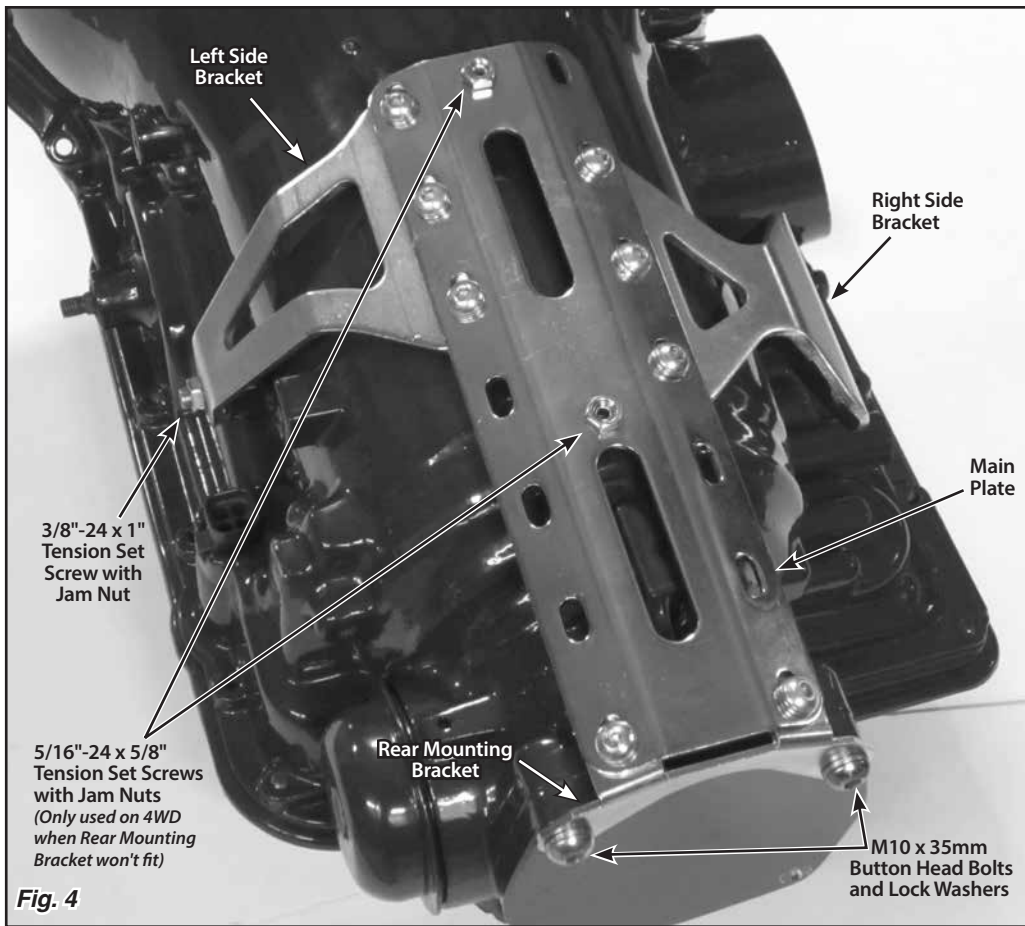

Fig. 4
**Step 5:** If you are using the rear mounting bracket, remove the top two tail housing bolts from the transmission. Install the mounting bracket assembly onto the transmission by first installing two M10 x 35mm button head bolts with lock washers through the rear mounting bracket and into the transmission at the tail housing. **Fig. 4**
If you have a 4 wheel drive application that will not accept the rear mounting bracket, start the 5/16"-24 x 5/8" tension set screws into the tension set screw holes at the front and in the center of the shifter main plate. Set the mounting bracket assembly into place on top of the transmission. **Fig. 4**